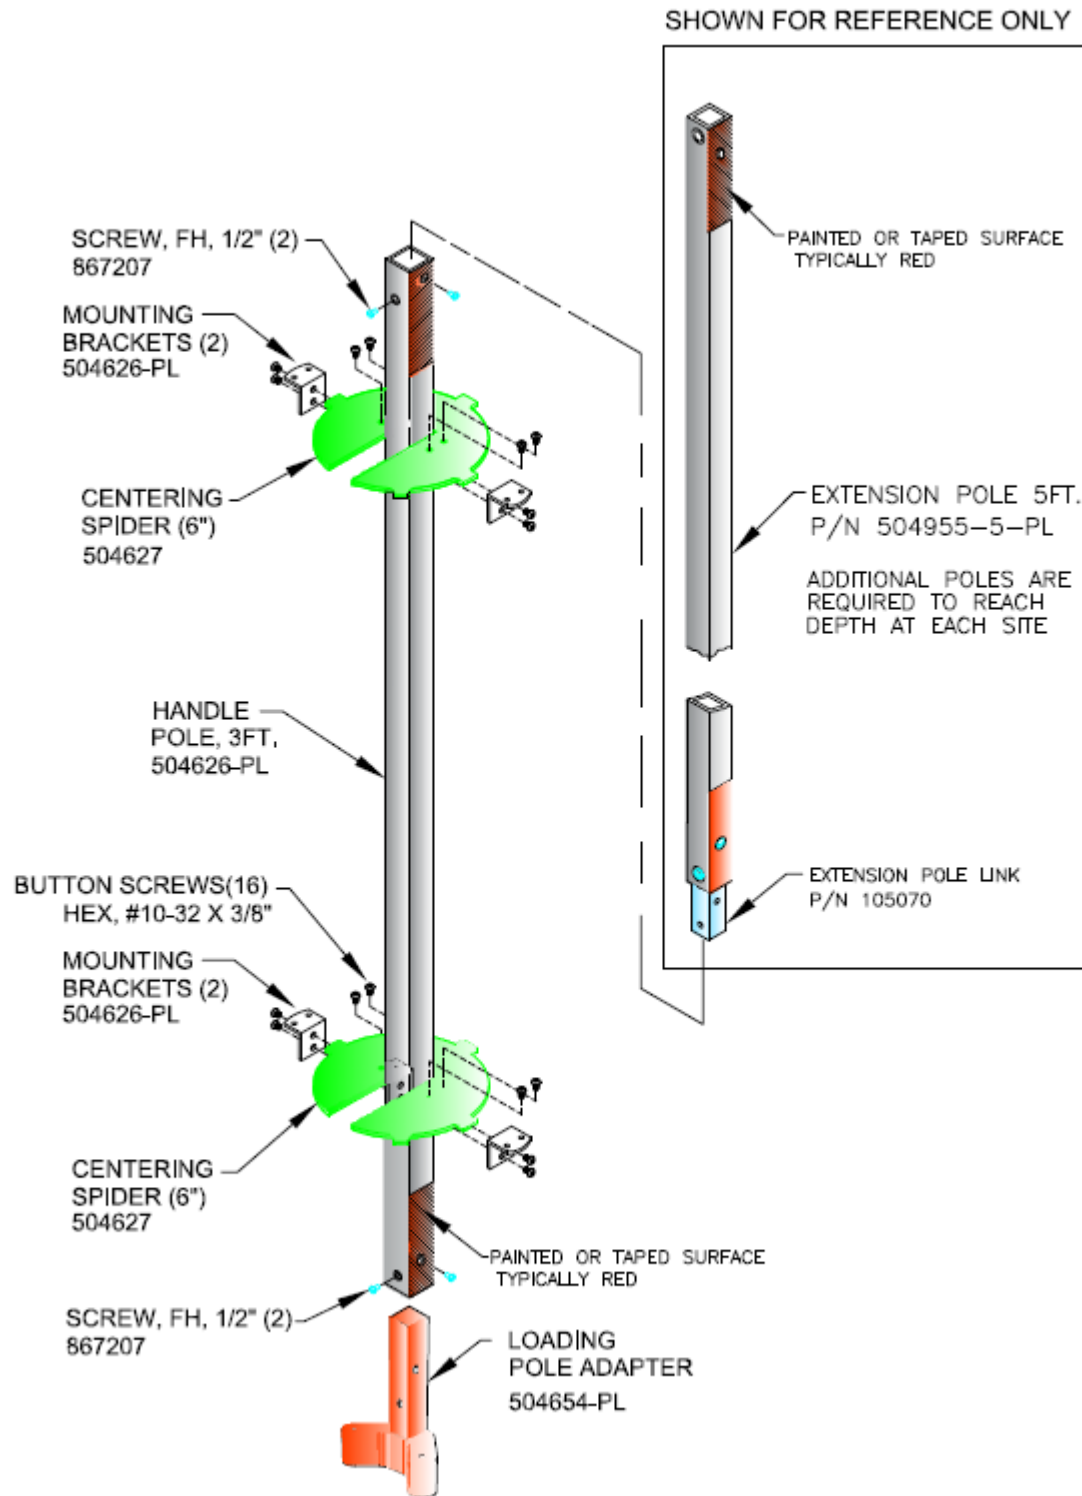

Figure 5. Orientation pole and extension pole
2. **Orientation pole**. This option is mainly for sensor orientation and requires the Posthole Kit above. Please see Figure 5.
3. **Extension pole, 5 ft (1.5 m) section**. This option is to extend the loading pole to up to 20 sections (totaling 100 ft or 30 m). Please see Figure 5.